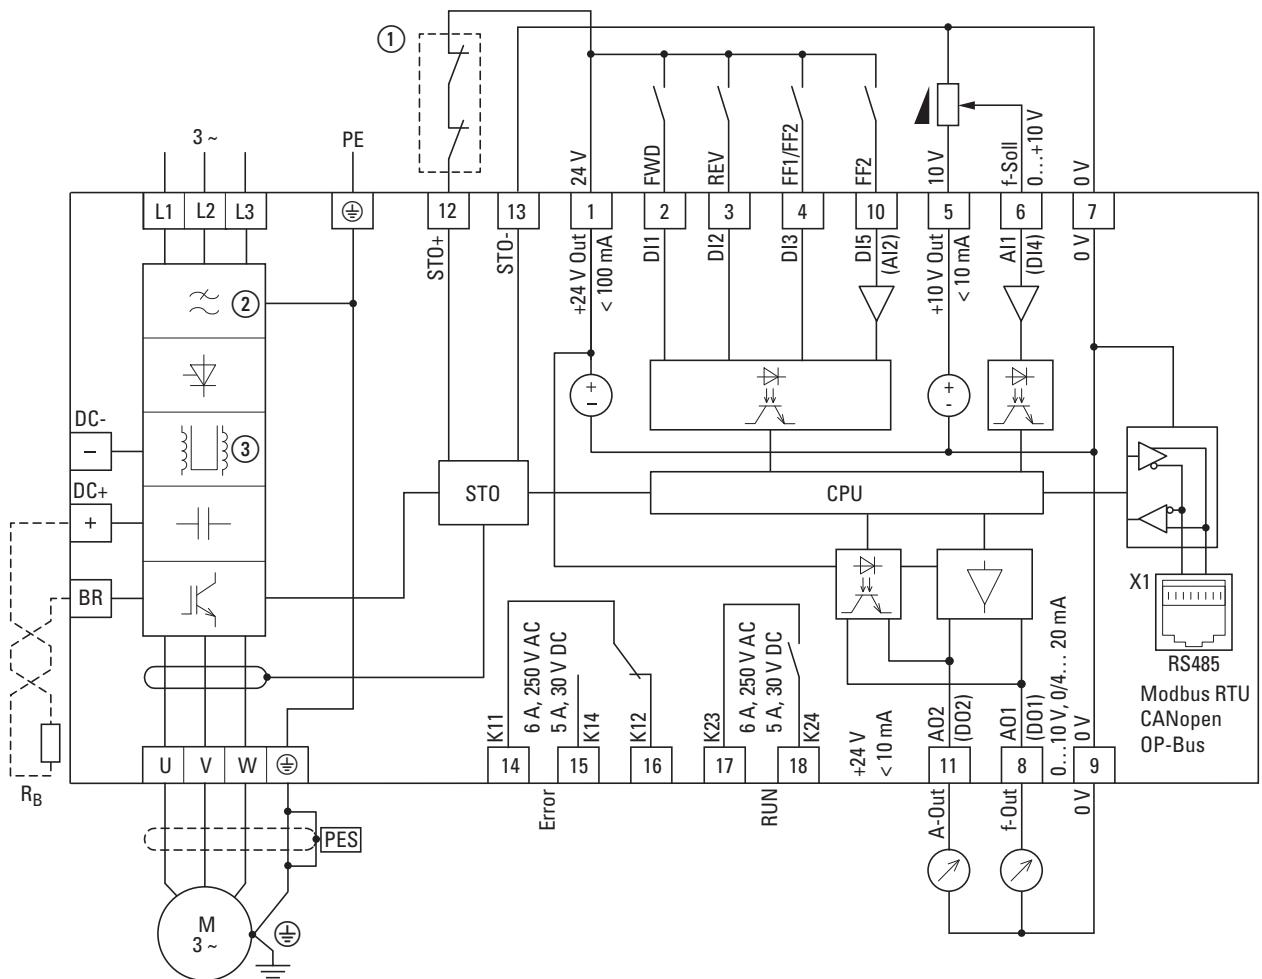

Figure 87: DA1-...-B55C block diagram
① Direct enable of the STO function or relay: Safe Torque Off (STO), SIL 2 (EN 61800-5-2) as seen in → figure 87, page 120.
② The RFI filter is not contained in the DA1-35-...-B6XC device.